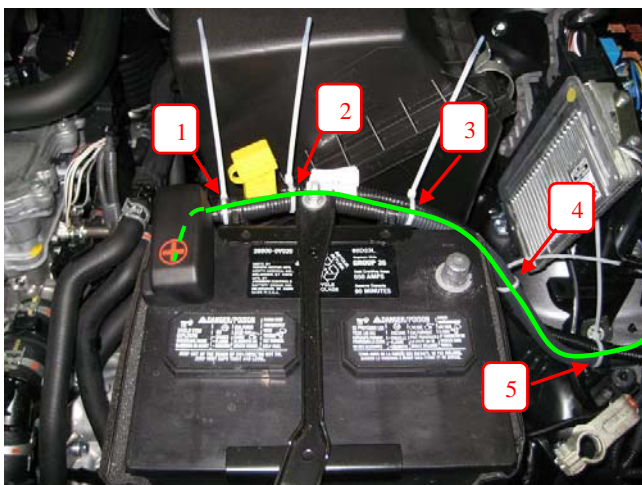

Figure 2-4
- b) Follow vehicle wire harness towards and along the LH fender and secure the trailer power wire with a wire tie every 150mm (6 inches) as shown in detail (Figures 2-4, 2-5 and 2-6). Make sure the wire is kept taut during routing.